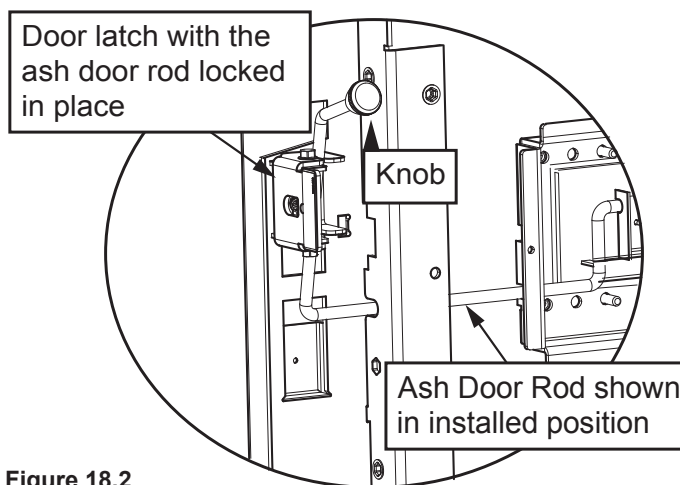

Figure 18.2
10. Add knob to handle rod (**Figure 18.2 on page 18**).
3. Install ARS access cover inside of ARS Channel that is located inside the firebox (**Figure 18.2**).
- Add knob to handle rod (**Figure 18.2 on page 18**).